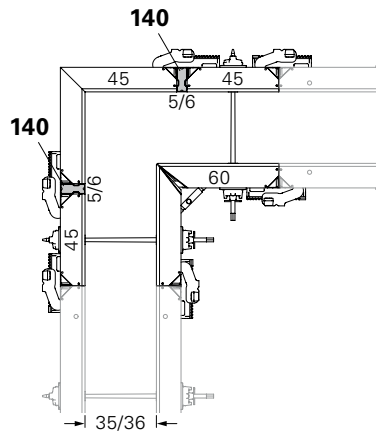

Fig. B2.07
- Wall thickness 35/36: Fig. B2.07